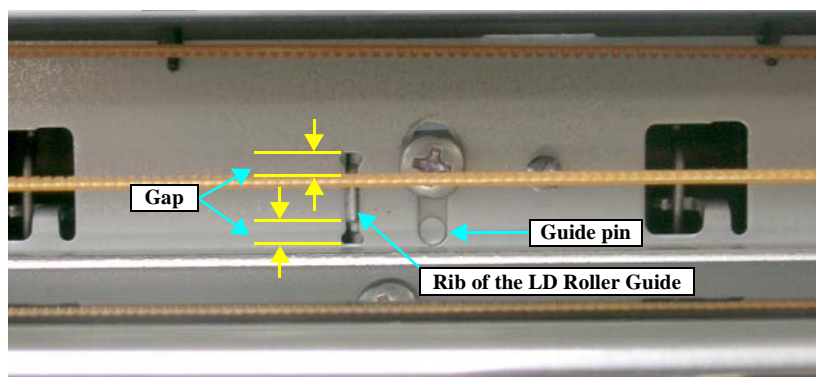

Figure 2-13. Checking the Position of Rib of the LD Roller Guide
4. Align the guide pin and rib on the 0-digit side LD Roller Guide with the positioning holes on the Main Frame, and tighten the LD Roller Guide (0-digit side) with the screws. (See Figure 2-13)